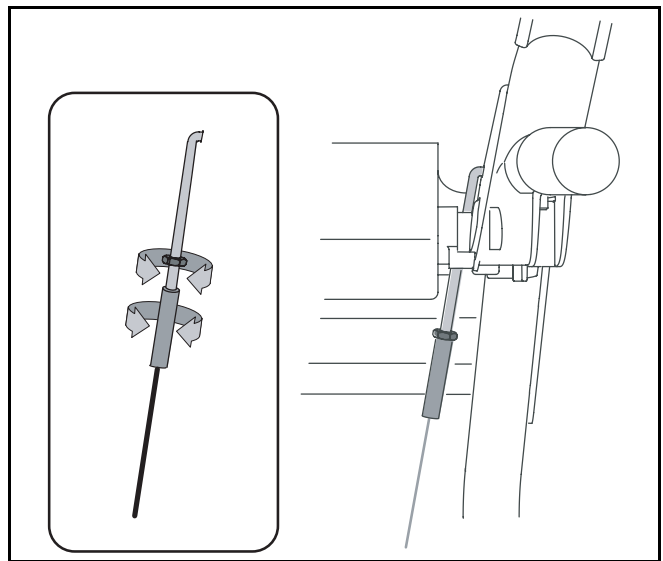

Figure 5
- Loosen the hex jam nut on the auger control cable “Z” fitting and rotate the coupling end of the cable downward to provide more slack or upward to take up slack. See Figure 5.